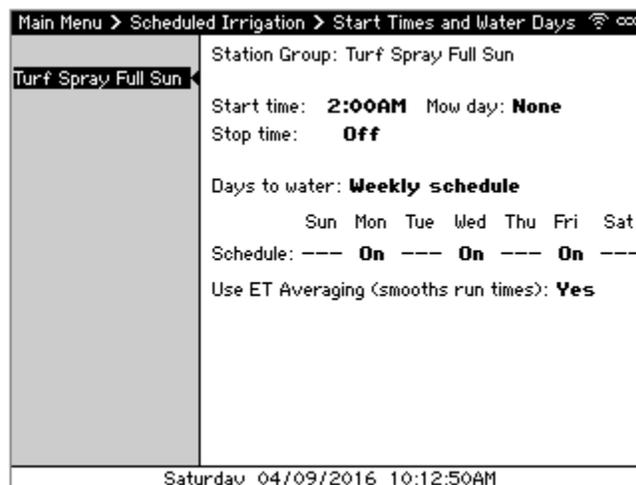

Figure 7 - Start Times and Water Days screen
- Navigate to and select **Start Times and Water Days**. The Start Times and Water Days screen displays (Figure 7). The pane on the left displays the Station Groups on this controller while the right shows the settings for each.